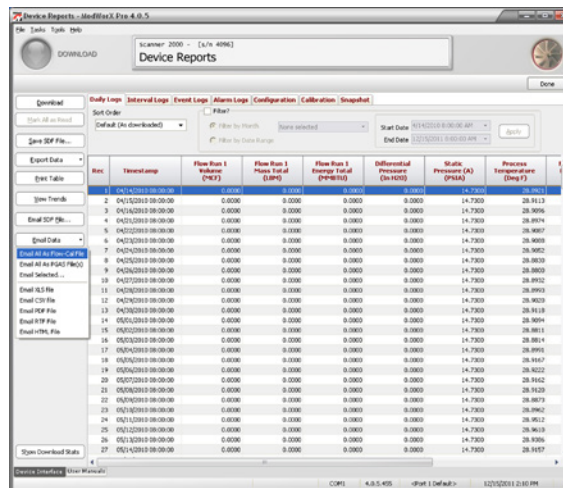

Figure 14.33
1. Click the **Email Data** button at the left of the screen and select **Email All As Flow-Cal File** from the dropdown list (Figure 14.33). For PGAS files, select **Email All As PGAS Files**.